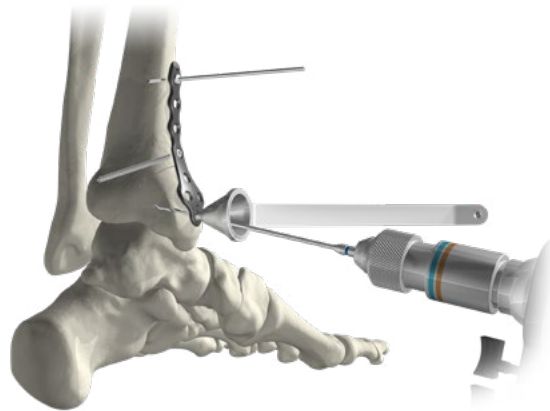

FIGURE 44
5. Repeat steps 3 and 4 to fill the remaining screw holes (FIGURES 44 & 45). The same steps are use for both locking and non-locking screws. Confirm screw placement under fluoroscopy throughout fixation to ensure positioning.